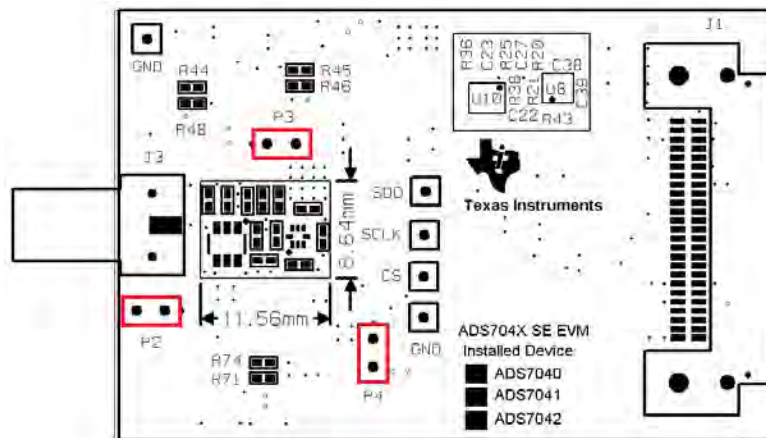

Figure 2. ADS7040EVM Default Jumper Settings
A silkscreen plot detailing the default jumper settings is shown in Figure 2.
- Step 1. Verify the ADS7040EVM jumpers are configured as shown in Figure 2.